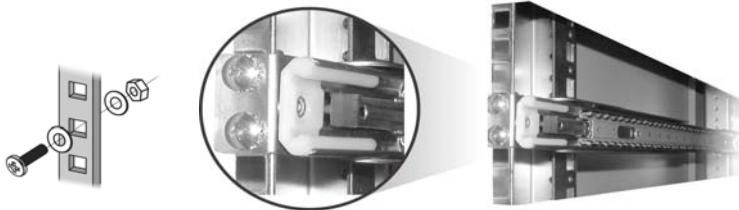

FIGURE 1-23. Installing the cage screws in the top and bottom holes of the slide set (front vertical rail view)
6. Install two cage screws over the slide set and cage nuts' top and bottom holes to secure the slide set to the front vertical rail (see *Figure 1-23*).